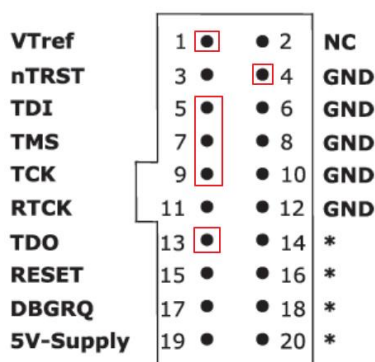

Figure 4-5 The Pin Diagram of J-Link
- The pin diagram of J-Link is as shown in Figure 4-5, with the red-box marked as the pin to be connected.